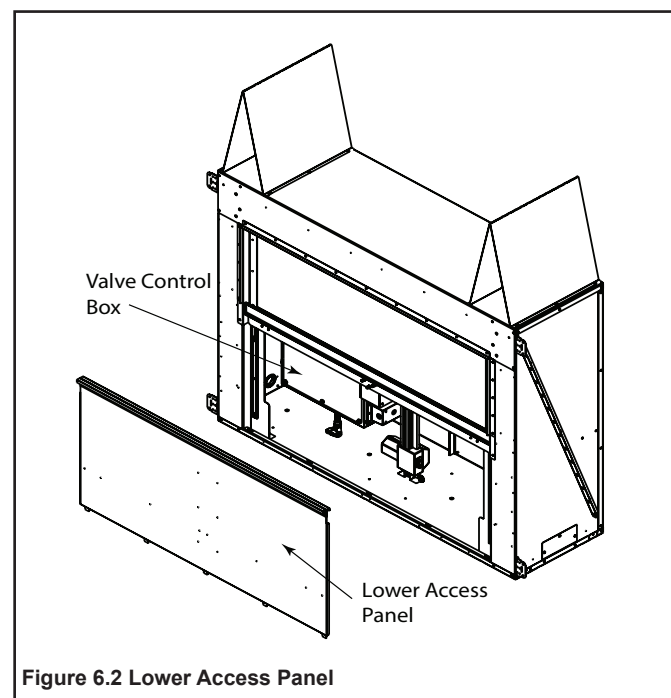

Figure 6.2 Lower Access Panel
The valve and controls are located in the appliance control box. See Figure 6.2.
- Remove Lower Access Panel by lifting up on the panel to disengage from hook, pull panel away from unit and set aside. See Figure 6.2.